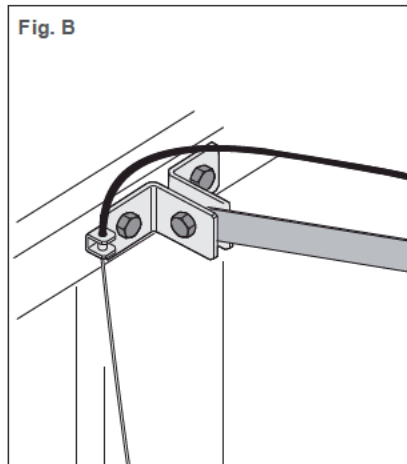

Fig. C1
- 4) Fix the inox cable to the lock release (fig.C1) or to the handle (fig.C2).